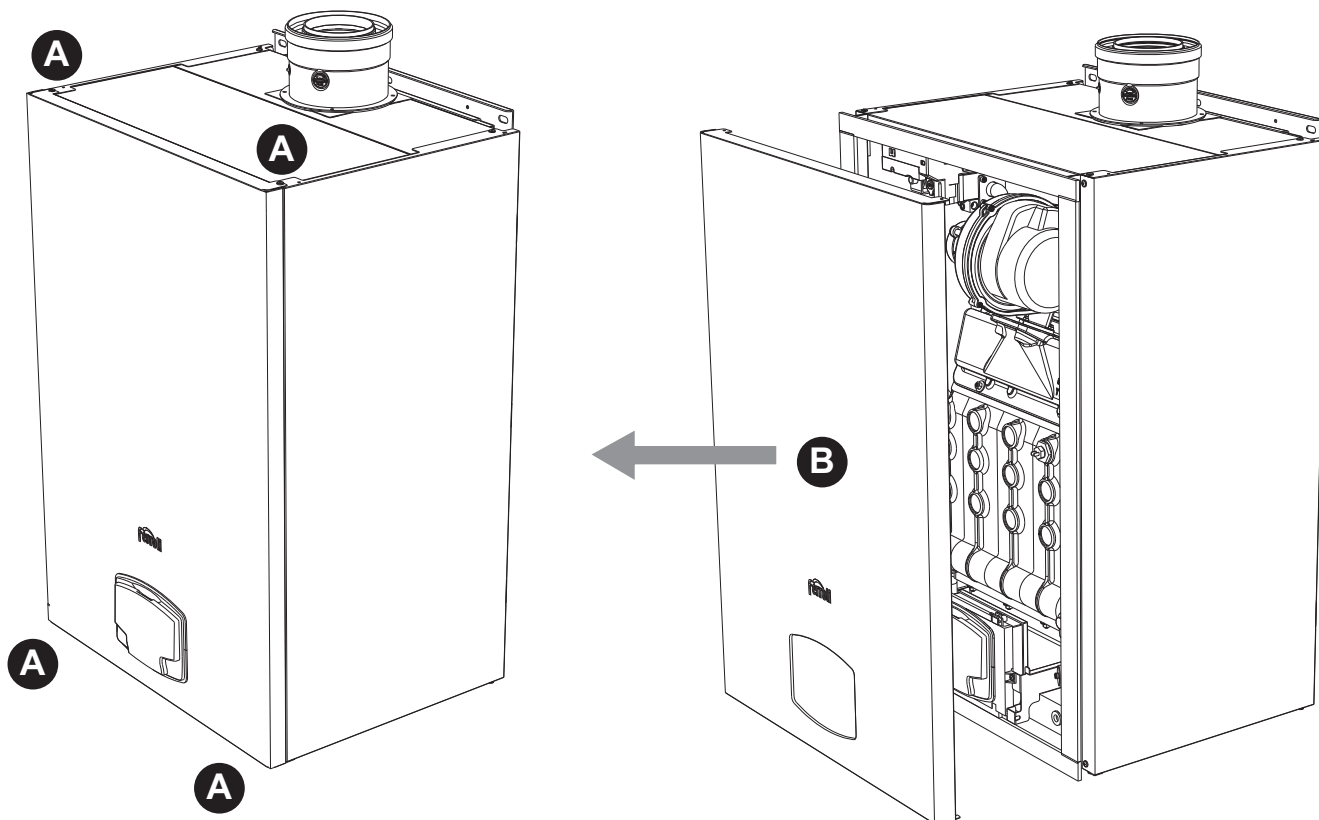

fig. 82- Front panel opening
1. Undo the screws **A** (see fig. 82).